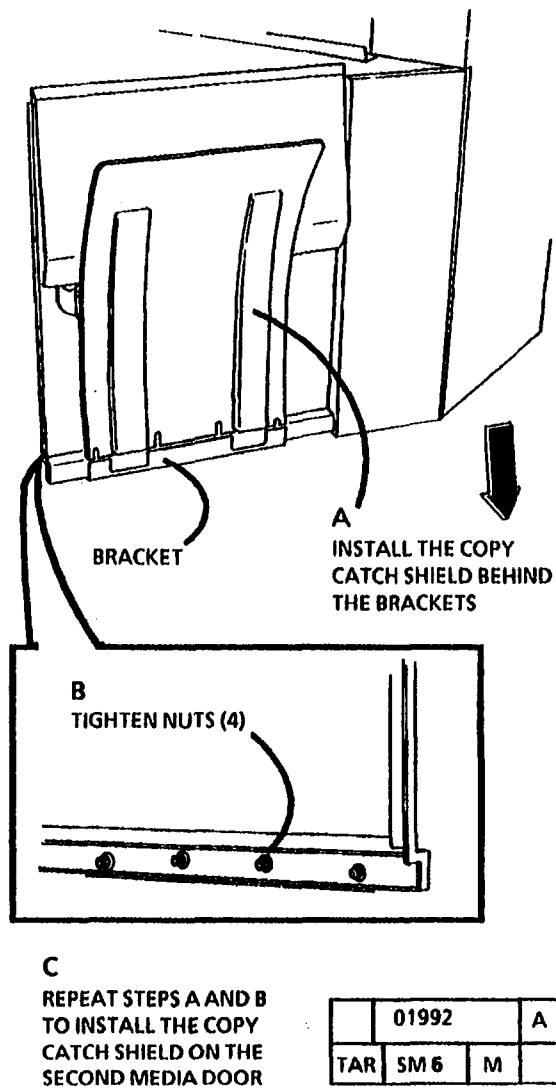

Figure 30. Install the Copy Catch Shields
38. (Figure 30): Install the Copy Catch Shields.